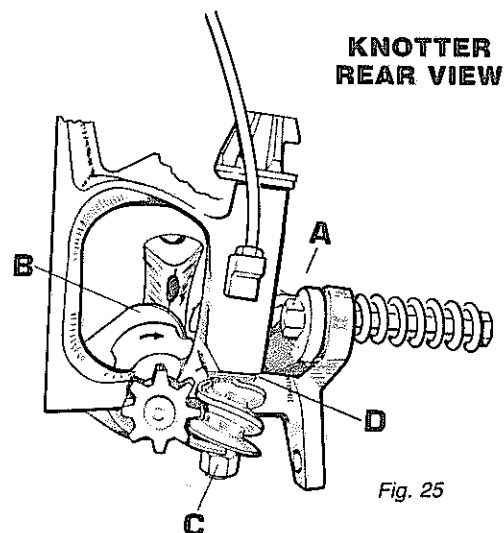

Fig. 25
The twine holder holds the twine in the twine disc while the bale is being made and tied. The pressure is regulated by bolt (A), see Fig. 25.
2. Adjust the twine disc notch so the left-hand side of the notch is even with the cleaner (B), see Fig. 25. Do this by loosening nut (C) several turns. Tap the nut end of the shaft to loosen the worm.
3. After the disc is set, turn the worm against the spacer washers (D), see Fig. 25, and tighten the nut.